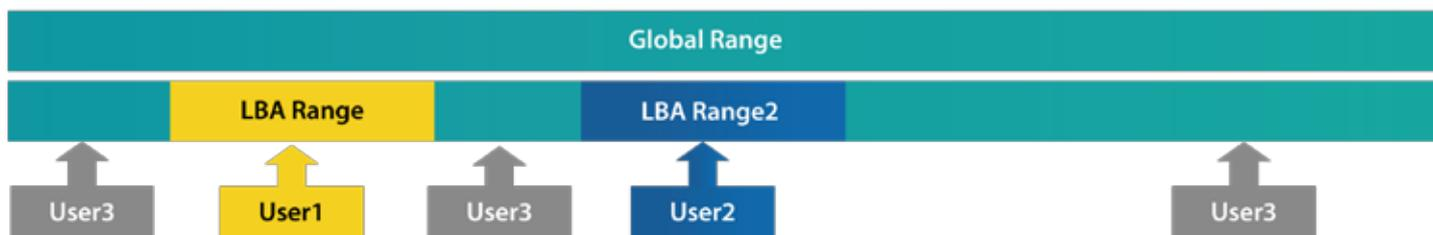

Figure 3
3. Sector-specific access privileges: The device manager may create separately addressable sector ranges using logical block addressing (LBA) and assign different privileges for each range. Only users with the correct key for a particular LBA range may perform certain actions. Where locations on the medium are password-protected, only users with the correct key will be granted authorized access. See Figure 3.